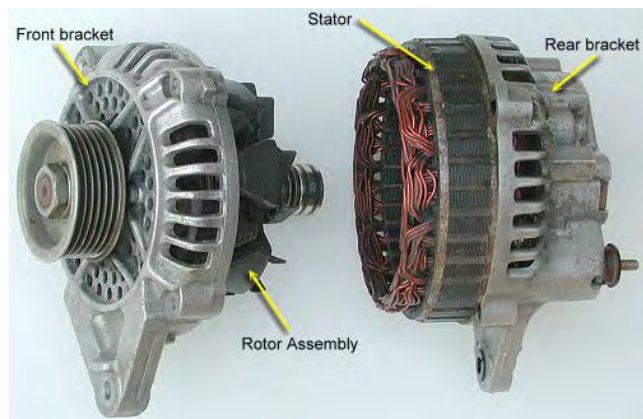

Figure 3.2: *Stator assembly*
2. **Stator:** This is a laminated soft iron member attached rigidly to the casing that carries three sets of stator windings. The coils of comparatively heavy enamelled copper wire forming the stator are arranged so that separate AC waveforms are induced in each winding as they are cut by the changing magnetic flux. Figure 3.2 shows a stator assembly.